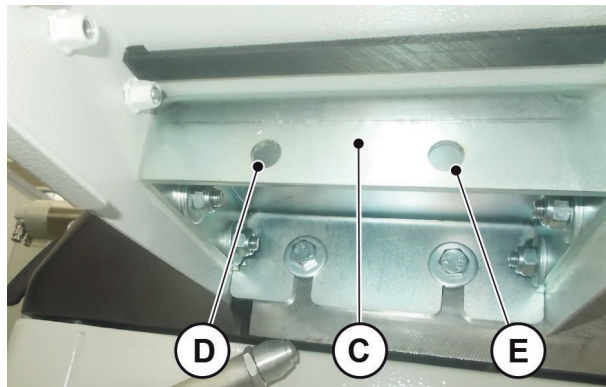

Fig. 05-06
- Hook up and fix the roller table to the panel "C" (**Fig. 05-06**) with the fixing screws positioned in correspondence with holes "D" and "E" (**Fig. 05-06**).